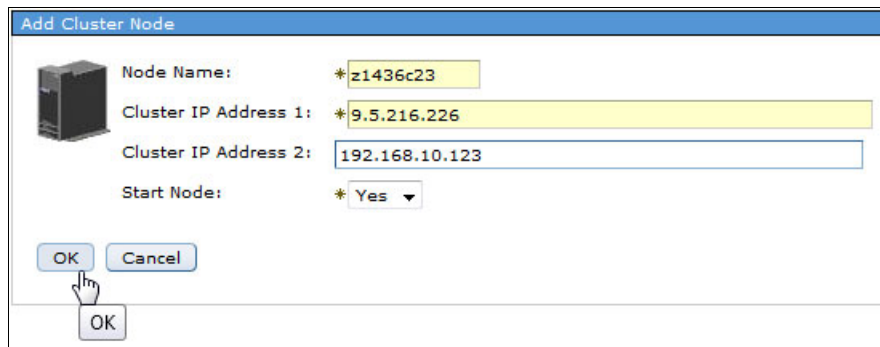

Figure 4-43 Three-node cluster, specifying the third cluster node details
3. In the Add Cluster Node window, enter the node name and the cluster IP addresses that are used for cluster communication, as shown in Figure 4-43. Click **OK**.